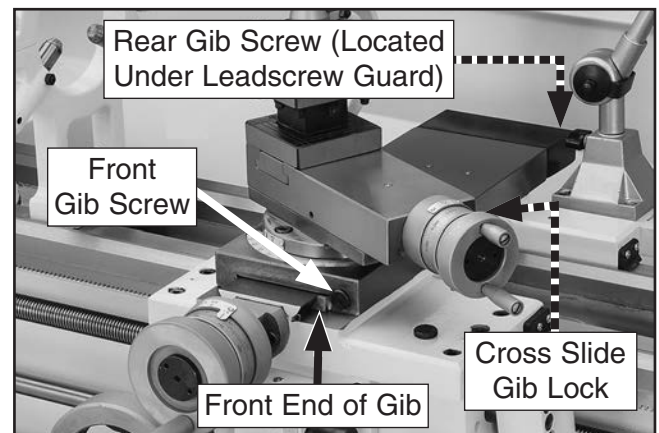

Figure 124. Cross slide gib components.
3. Loosen cross slide gib lock (see **Figure 124**).
4. Loosen gib screws (see **Figure 124**) and adjust as required.